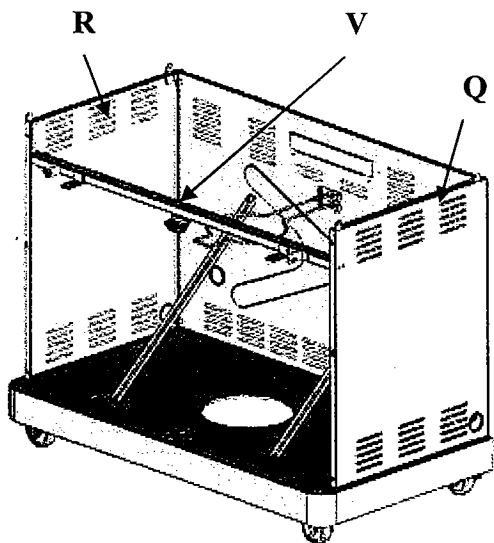

Fig. 9
Align the holes in the beam (V) with magnet with both side panels (Q and R), insert 1/4-20 x 5/8-in screws into the holes, and then tighten. (See Fig. 9)